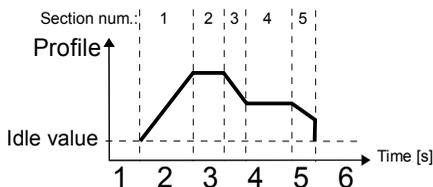
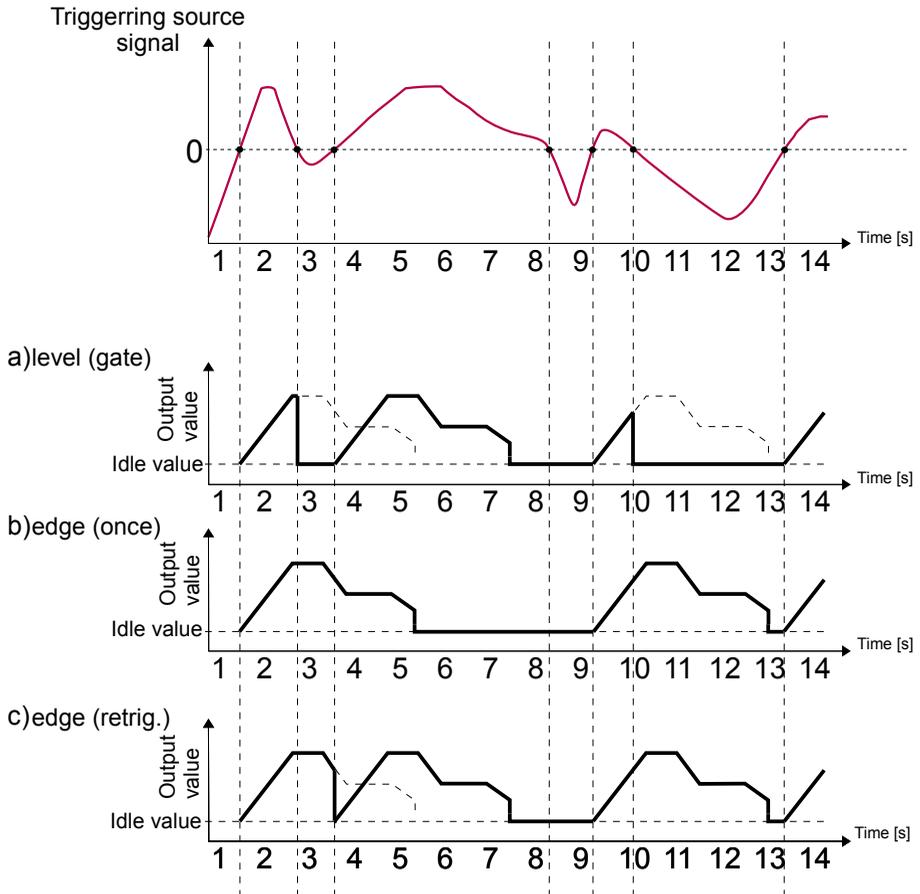

Fig. 7.85. Sample of Profile/timer
Fig. 7.86. Samples of **Profile** output waveforms defined in Fig. 7.85, triggered by signal selected in **Triggering source** parameter
- **level (gate)** - this means that configured by user **Profile** is generated when source signal will have a value > 0 , otherwise (if source value ≤ 0) defined Profile will not be generated, see example **a**) in the Fig. 7.85 and Fig. 7.86,
- **edge (once)** - this means that configured by user **Profile** will be triggered by rising edge signal (from values ≤ 0 to the value > 0) from source signal. After the rise edge the **Profile** will be generated in whole (once), regardless of further changes to the signal source, see example **b**) in the Fig. 7.85 and Fig. 7.86,
source signal will generate a edge, whether that Profile had been completed or not, see example **c**) in the Fig. 7.85 and Fig. 7.86,